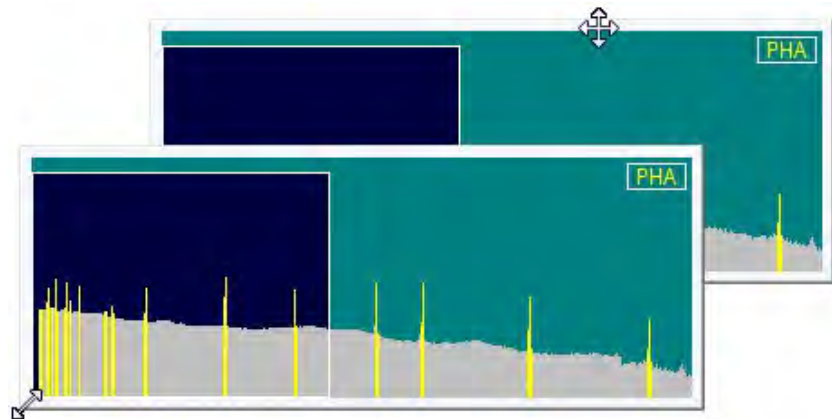

Figure 50. Two-Sided Pointer for Sizing Full Spectrum View, and Four-Sided Pointer for Moving Window.
- **Resizing** — Roll the mouse pointer over the side edge, bottom edge, or corner of the window until the pointer changes to a double-sided arrow (see Fig. 50). Click and drag the edge of the window until it is the size you want, then release the mouse button.
- **Moving** — Roll the mouse pointer onto the top edge of the window until the pointer changes to a four-sided arrow (see Fig. 50). Click and drag the window to its new location, and release the mouse button.